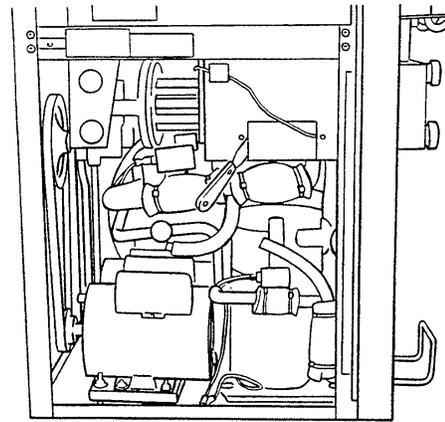

Figure 58. Foam Insulation Removal
- Use a one (1) inch putty knife to cut the foam installation by gently pushing straight in (Figure 58).